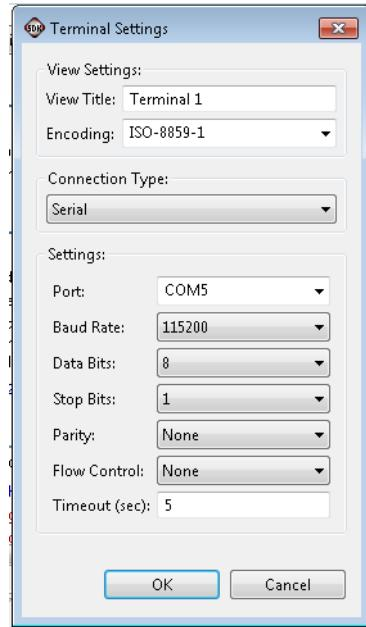

Figure 10-26: Terminal Settings
- d. Change the Baud Rate to 115200 (Figure 10-26).